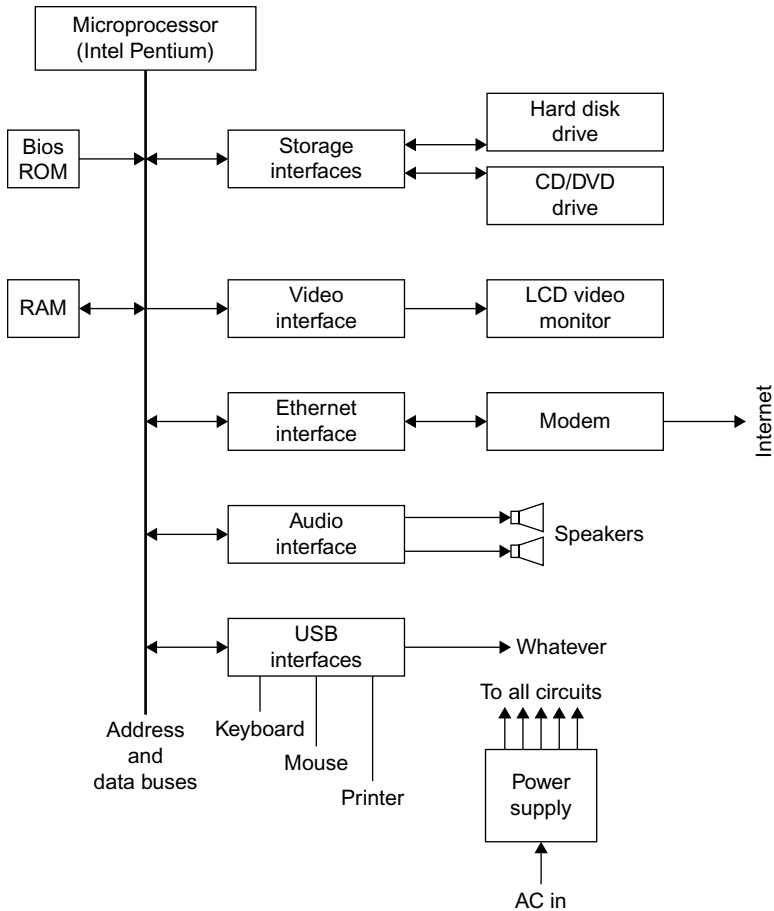

FIGURE 3.2 System block diagram of typical personal computer.
A personal computer (PC) is a great example of a system (see Figure 3.2). It is made up of modules including a mother board with its processor, memory ICs, and input/output (I/O) interfaces. There is a power supply module, a hard disk drive, a CD/DVD drive, and perhaps a video card. Then the system is completed when it is connected to the video monitor, keyboard, printer, and Internet modem.